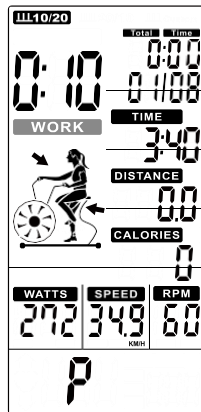

Figure 21
- ③ Cycle time counts down from 20 to 0 and **WORK** flashes once per second . Meantime windows displays rotation animation and count down from 4 minutes. Then TOTAL TIME, DISTANCE, CALORIES, WATTS, SPEED & RPM start calculating, counting displays '01/08'(Figure 21).